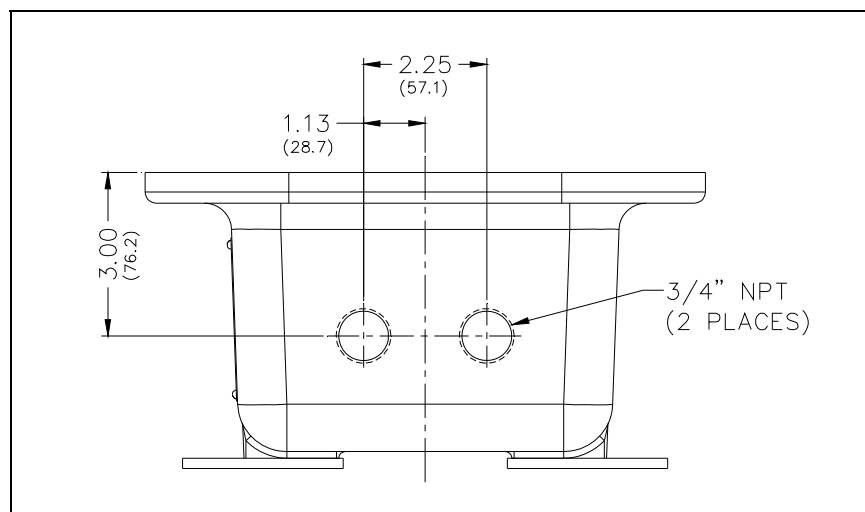

Figure 9. Model 352 Series Conduit Entries
- All conduit NPT plugs (blanking elements) must be explosion-proof with a Type 4X rating (see Figure 9).